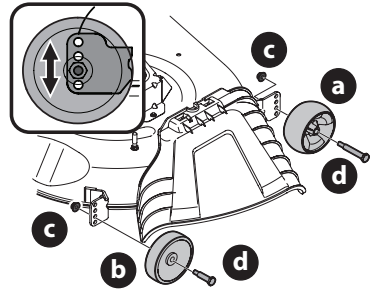

Figure 9
- Remove the front (a) and rear (b) deck wheels by removing the flange lock nuts (c) and shoulder bolts (d) that secure them to the deck (Figure 9).